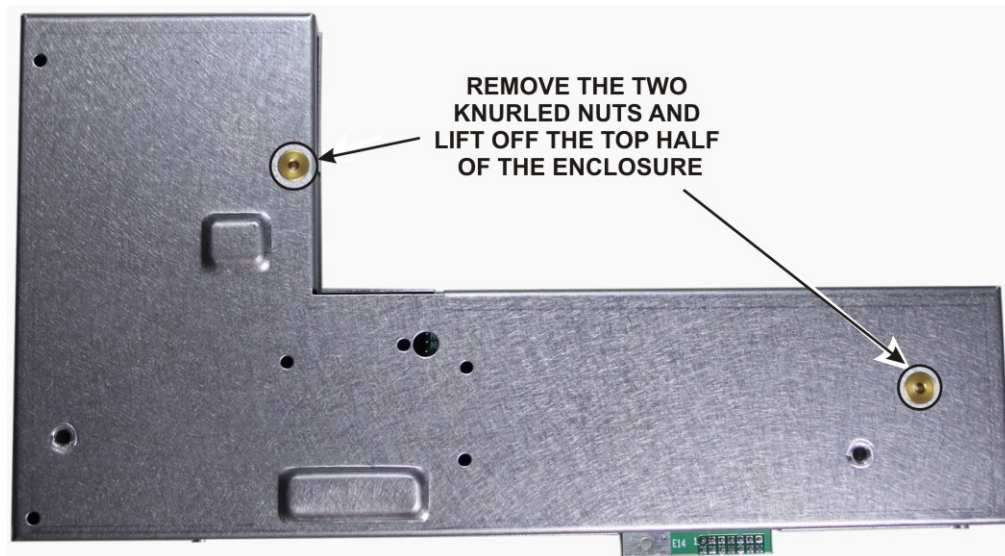
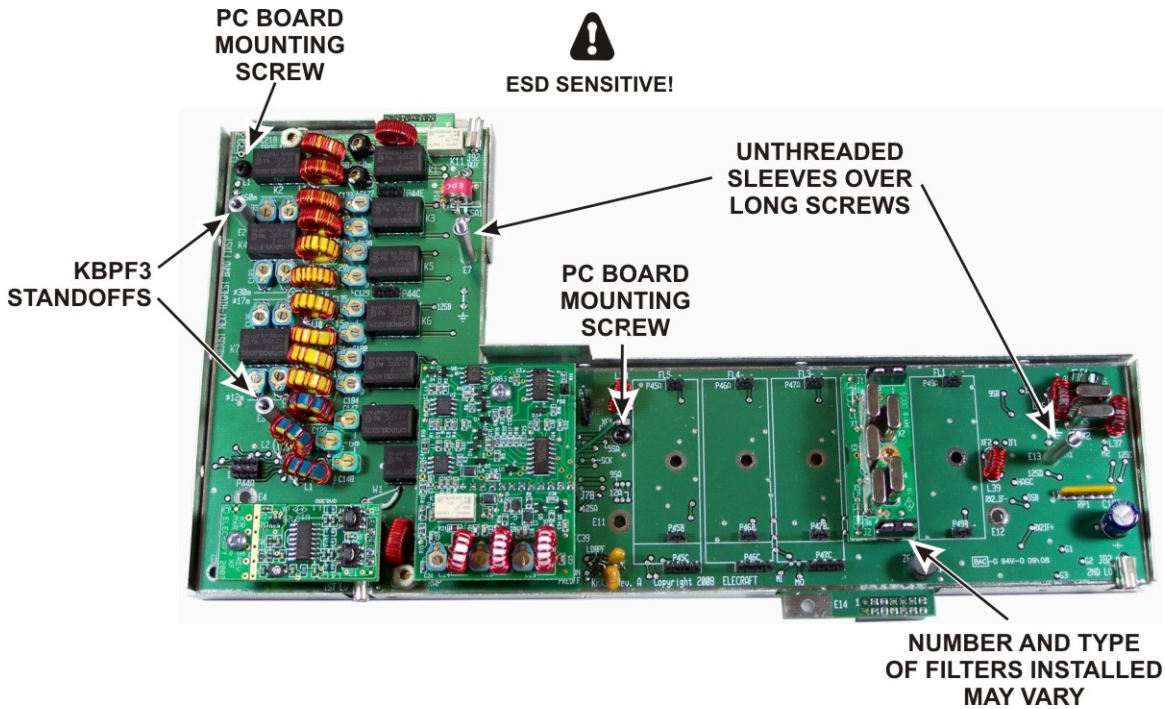
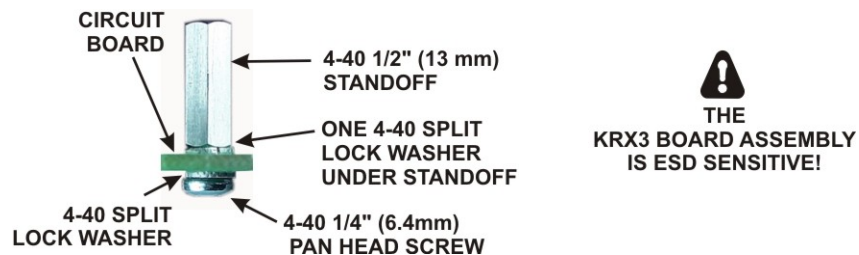

Figure 4. Removing the Top of the KRX3 Enclosure.
Figure 5. KRX3 PC Board
Figure 6. Installing KBPF3 Standoffs.
- Unscrew the two knurled nuts shown in Figure 4 and lift the top half of the enclosure off. There are two unthreaded sleeves over the long screws above the circuit board that will slide off easily (see Figure 5). Be sure you don't lose them.
Check to see if the KBPF3 standoffs are already mounted at the locations shown in Figure 5. If so, go directly to *Installing the KBPF3 on the KRX3 Board* on page 10. Otherwise continue with *Installing KBPF3 Standoffs on KRX3 Board* below.
- Remove the two unthreaded sleeves over the long screws shown in Figure 5, then remove the two PC board mounting screws. Each screw has a split lock washer under it.
- Install the 1/2" (13 mm) standoffs at locations E1 and E3 on the KRX3 pc board (see Figure 5). Use the hardware exactly as shown in Figure 6. The lock washer between the standoff and the pc board is very important to establish the correct height above the board.
- Install the KBPF3, making sure the three connectors on the bottom of the board mate with P44A, P44C and P44E on the KRX3 board. The screw holes will line up with the standoffs when the board is positioned correctly (see Figure 5). Secure the KBPF3 board two 4-40 1/4" (6.4 mm) pan head screws and #4 split lock washers as shown.
- If you removed them, place the 7/8" (22 mm) unthreaded sleeves over the long screws so they rest against the top of the circuit board (see Figure 5).